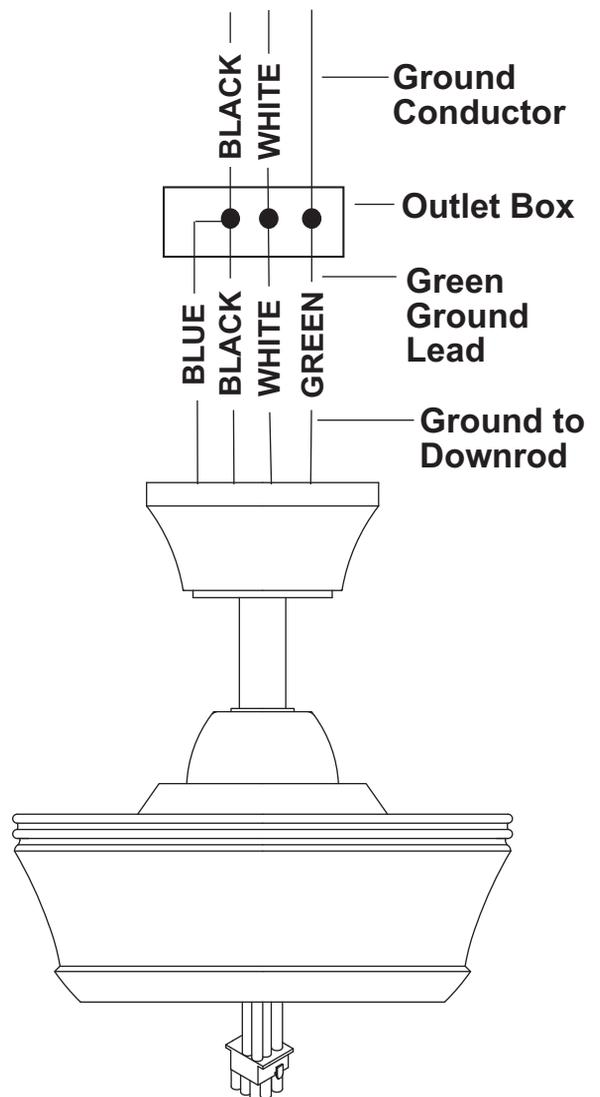

Figure 10
Step 1 Connect the fan supply (black) wire and light supply (blue) wire to the black household supply wire as shown in Fig. 10.